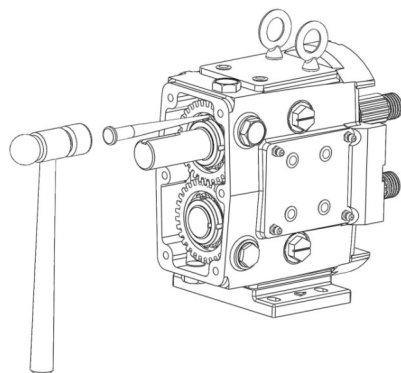
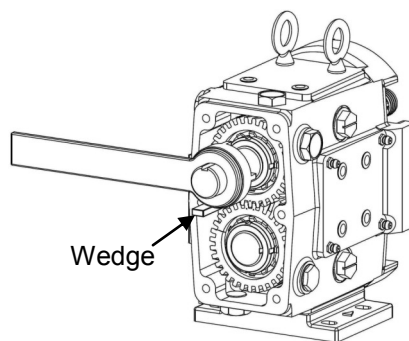

Figure 37: Bending Tabs on Lock Washers
Figure 38: Removing Lock Washers
2) Using a hammer and a punch, bend the tabs straight on the lock washers (Figure 37). Use a wedge (wood or plastic) to keep the shafts from turning while removing the lock nuts (Figure 38). Using a spanner wrench or the nut removal tool (available from Q-Pumps), remove the gear lock nuts. Slowly remove the gears from the shafts. Remove the gear keys and gear spacers from the shafts.